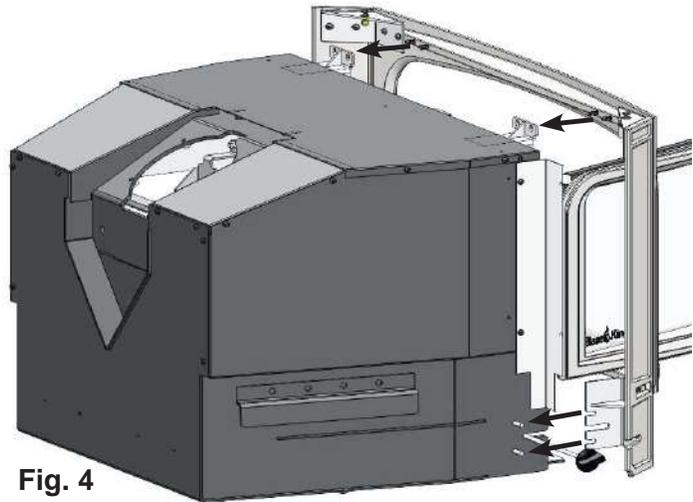

Fig. 4
4. With loading door open, align lower brackets of cast assembly with the two threaded posts on each side of the firebox. Align upper threaded posts on cast assembly with the two brackets on the firebox. Begin to slide the assembly onto firebox. (**Fig. 4**)